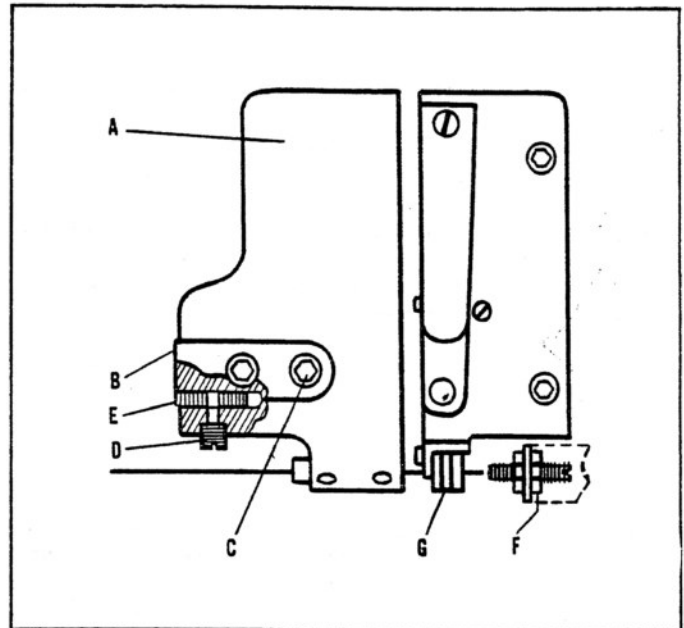
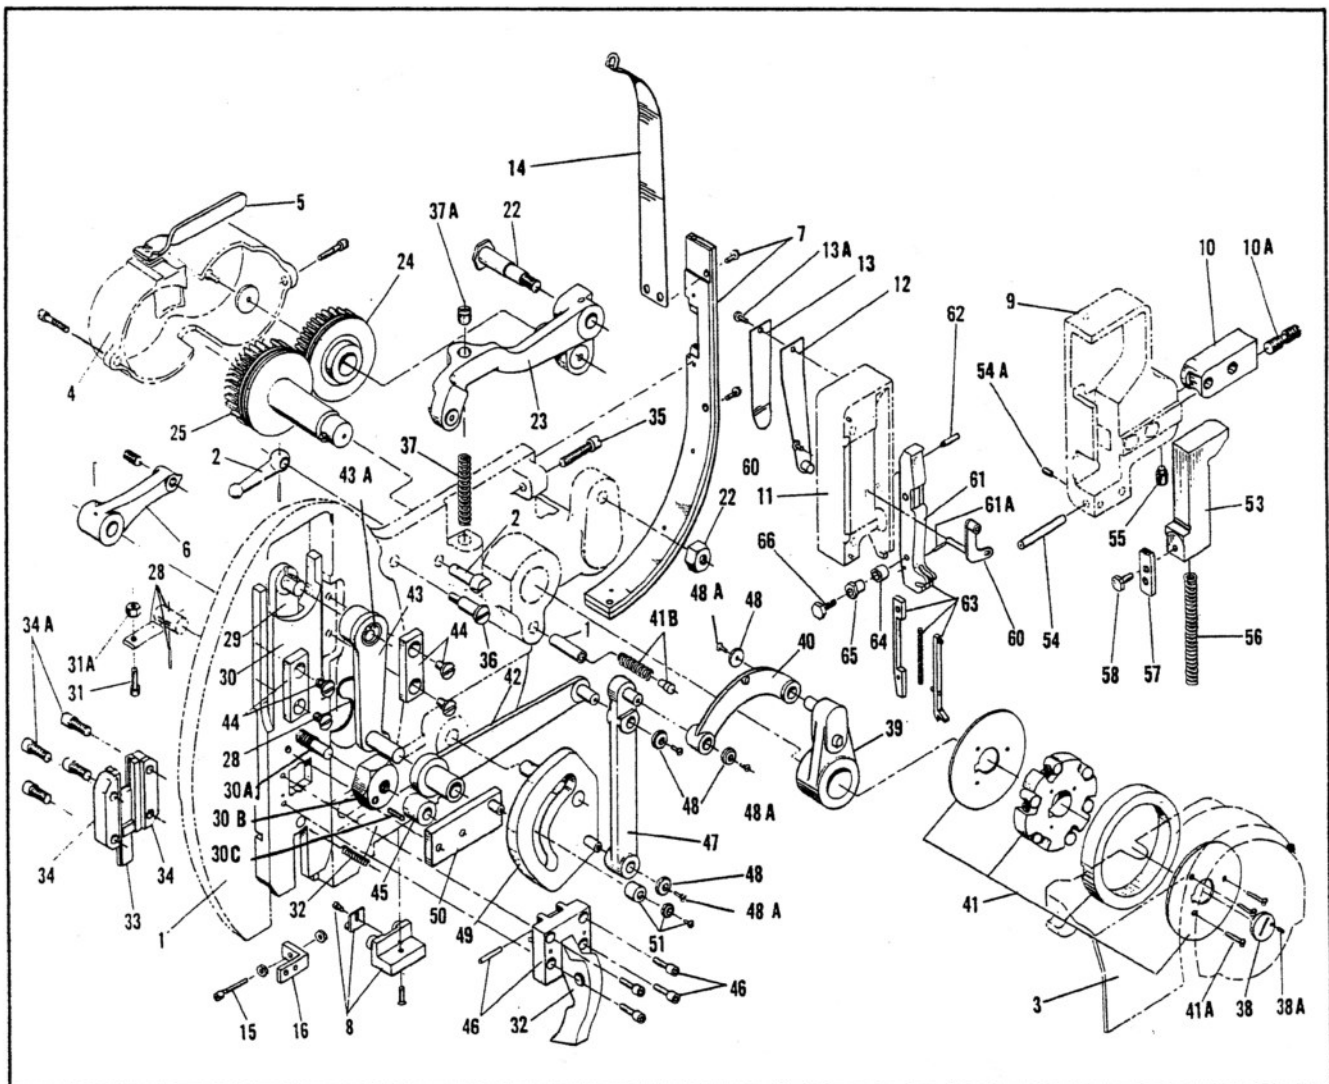
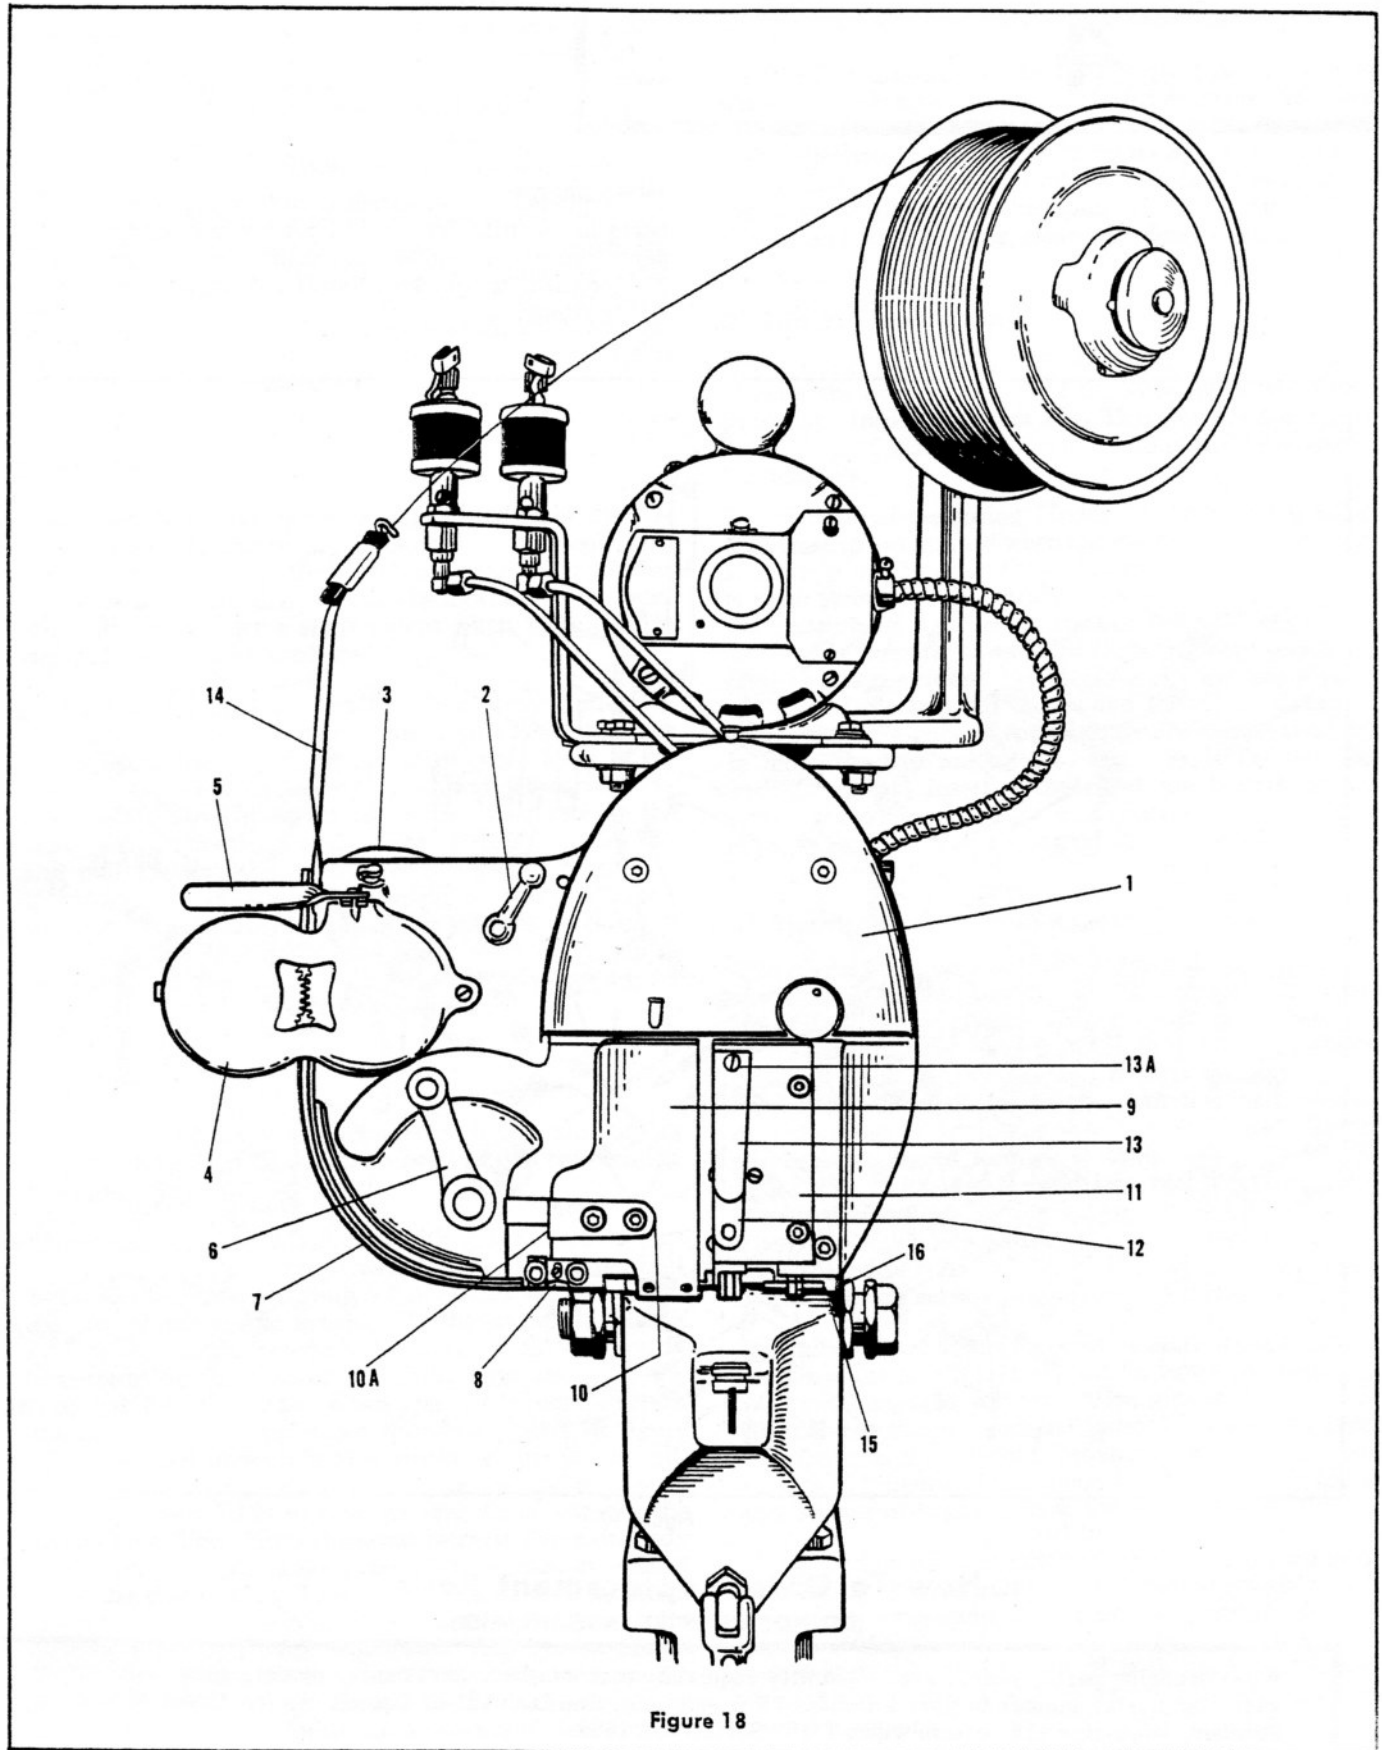

Figure 16
Figure 17
Figure 18
To lengthen or shorten the travel distance of the knife: (1) Remove the cutting block (Index 9, figure 18). (2) Loosen lock nut (Index 31A, figure 20). (3) Turn the adjusting screw (Index 31, figure 20) clockwise to shorten the travel of the knife; counterclockwise to lengthen the travel. (4) Tighten lock nuts securely.
To Adjust the Mandrel: (1) Loosen eccentric screw (Index 66, figure 17). (2) Turn eccentric bushing (Index 65, figure 17) to change the inward position of the mandrel. (3) Tighten eccentric screw. (4) Check, and repeat if necessary until wire is in alignment.
The mandrel spring (Index 13, figure 18) exerts pressure on the mandrel (Index 61, figure 22) so that it carries the wire under the formers. If the mandrel spring is weak or
broken, or the mandrel spring binding screw (Index 13A, figure 18) is loose, the mandrel will return to its original position still holding the wire. This usually prevents feeding of the next piece of wire into the mandrel. If a second piece of wire is fed into the mandrel alongside the first piece, a broken mandrel may result.
To determine if the Straightener is Adjusted Properly: (1) Remove the front block (Index 11, figure 18). (2) Depress the trip rod lever (Index 95, figure 25) and slowly turn the flywheel over by hand. The wire should come out of the cut-off die horizontally. (3) If the wire turns
up, loosen set screw (Index 8, figure 18) and move adjusting slide upward. If the wire curves down, move adjusting slide down. (4) Tighten set screw. (5) Check wire as it comes out of cut-off die to determine if further adjustment is necessary.
To Adjust Drive Bar Link: (1) Remove the face plate assembly (Index 1, figure 18). (2) Remove the former slide assembly (Index 30, figure 21) from the face plate. (3) Remove the driver bar and drive bar link (Index 43, figure 21) by sliding from the face plate. Be careful not to let the two pieces become disengaged. (4) If the drive bar link is not already marked for locating make a mark on the drive bar link opposite the mark on the eccentric (Index 43A, figure 21) so there will be a locating point from which to gauge the amount of adjustment. Some machines already have marks that can be used as reference points in making necessary adjustments. Alignment of these marks does not necessarily indicate a correct setting because of certain other factors which may have caused a change in the relative position. (The outer surface of the eccentric and the inner surface of the hole in the drive bar link are serrated. Changing the position of these two parts by moving one serration to the right or left, results in raising or lowering the driver in relation to the ends of the formers by approximately .005".) (5) Remove the drive bar link from the drive bar stud. Slip the eccentric from the drive bar link. (6) To make the driver descend further, turn the eccentric one or more serrations in the direction which brings its thinnest section toward the stud in the drive bar link (this shortens the distance from the center of the hole in the eccentric to center of the drive bar link stud). To decrease the downward travel of the driver, turn the eccentric one or more serrations in the direction which brings its thickest section toward the stud in the drive bar link. (7) Reassemble parts. Check your results. Repeat above steps if necessary.
The cutter block (Index A, figure 16) contains the cut-off die, flat knife and the parts required to equalize the stitch length. The adjusting slide (Index B, figure 16), is directly connected to the wire draw linkage in back of the
To Equalize the Legs: (1) Make certain that the index lever set screw (Index 6, figure 18) is tight. (2) Loosen the cutter block screws (Index C, figure 16) one-half turn and the set screw (Index D, figure 16) not more than one-eighth turn. (3) To increase the length of a short right leg, turn the adjusting screw (Index E, figure 16) clockwise. For a short left leg turn the adjusting screw counterclockwise. (4) Press the cutter block to the left as far as possible. Tighten the cutter block screws and set screw. (5) Drive several stitches (the new adjustment will not show up until after the third stitch). (6) Repeat above steps if necessary.
Adjust Wire Stop Screw (Index F, figure 16) after the leg lengths are equalized.
The wire blank for the stitch is properly centered in the mandrel at the time of cut-off. The purpose of the wire stop screw is to keep the wire centered and to prevent it from the jumping in the mandrel gripper (Index G, figure 16) while it is being cut off. If the wire blank is not kept centered in the mandrel as the formers descend, the formed stitch will not have equal legs.
To Check for Proper Amount of Tension: (1) Remove the front block assembly (Index 11, figure 18) and lower the arm. (2) With stitcher under power, trip the foot treadle and cut 20 to 30 pieces of wire and catch them in a piece of cloth held under the formers. (3) Check length variation. If the longest and shortest pieces vary by more than .025", adjust the tension on idler. (4) To increase the tension on the feed lever assembly (Index 23, figure 21) turn the set screw (Index 37A, figure 21) clockwise.
To Clean or Repair the Clutch: (1) Remove wire feed guard (Index 3, figure 18). (2) Loosen set screw (Index 38A, figures 17 & 21). (3) Remove feed set screw (Index 38, figure 21) and slide clutch from shaft. (4) Remove three screws (Index 41A, figure 21) and lift off front plate. (5) Dip parts in a grease solvent and wipe dry. (6) Inspect the springs for signs of wear along the sides which contact the front and back plates. (7) Inspect the spider for wear in the bottom of the grooves which hold the rollers. (8) Inspect the rollers for wear. If these parts are worn, the wedging action of the rollers against the outer ring is lost. (9) Replace worn parts. (10) Oil parts lightly and reassemble. The wire feed clutch brake assembly (Index 41, figure 21) prevents over feed. Keep this part clean and free of oil.
The exploded view illustrated on this page contains all the parts in the stitching head of your Metal Stitcher. These parts and index numbers are duplicated in Figures 17 to 22 along with a complete listing containing part numbers and part names.